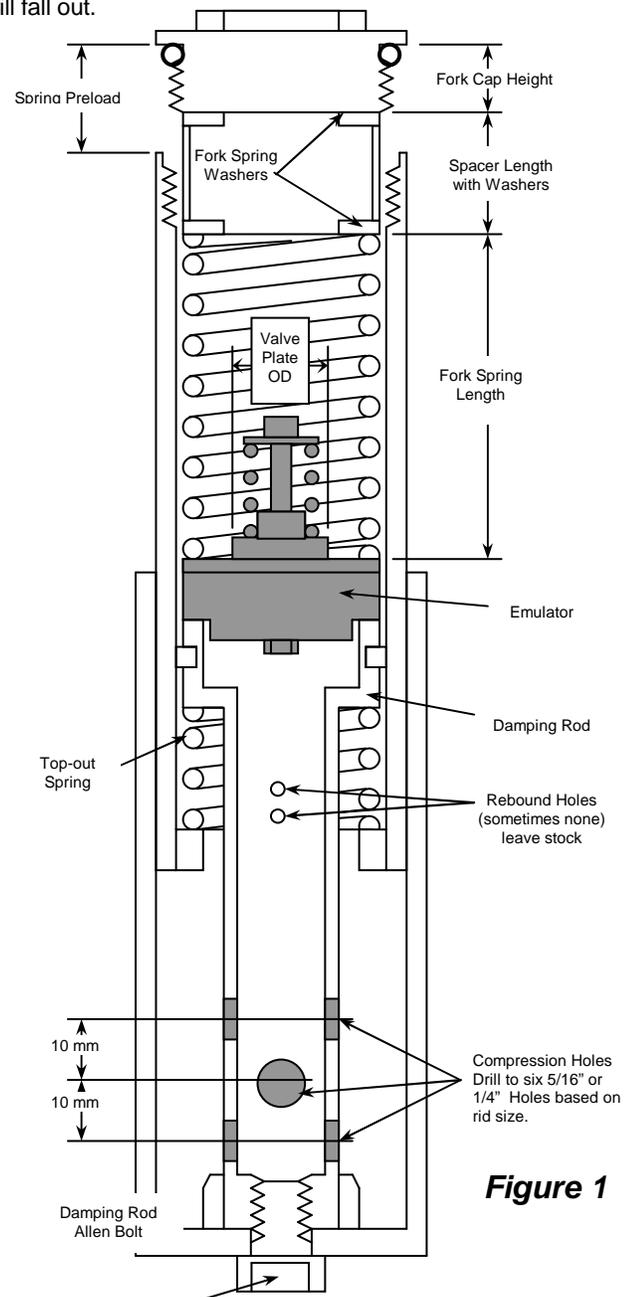

Figure 1
2 **Check the fit of the Gold Valve Emulator** by placing it on top of the damping rod. The step on the Emulator must sit into the large hole in the top of the damping rod and must completely cover it so there is no blow-by (figure 1). Do NOT machine down Emulator for fitment!
- Check the inner diameter of the fork spring** must be at least 4 mm (0.160") larger than the Emulator Valve Plate itself for proper flow (figure 1).
3 **Drill the existing compression holes in the damping rod to 5/16 inch (8 mm) and add additional 5/16" OR 1/4" (6mm based on damping rod size) holes so you end up with six holes (3 sets of 2 holes) (figure 1).** When drilling new holes, space them axially (lengthwise) at 10 mm (7/16") increments. Each set of two holes must be perpendicular to the last set so as not to weaken the rod (figure 1). After drilling, chamfer and deburr the compression holes, inside and out. **Do not add or enlarge the rebound holes and leave their edges sharp if any exist.**
- a. Drop the Emulator down the tube. It sits on top of the damping rod with the Emulator Valve Spring facing up and is held in place with the main fork spring. Refer to figure 1. Visually check to make sure the Emulator is sitting squarely on top of the damping rod or the adapter.
- c. Set the fork cap on the washer and determine the preload by measuring from the top of the fork tube to the sealing lip on the fork cap (see figure 1). This is a direct measurement of fork spring preload. Shorten the spring spacer tube to achieve the proper preload.